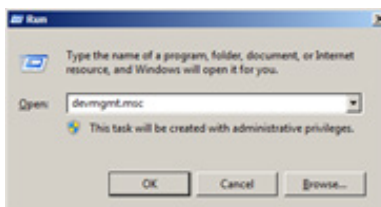

Figure 13: Starting the device manager from the run dialog
1. Prior to the configuration and use of the RS-232 combo software, determine the proper COM port. To do this, start the device manager by selecting **Start > Run**, and typing "devmgmt.msc" in the run dialog box, as shown in *Figure 13*.